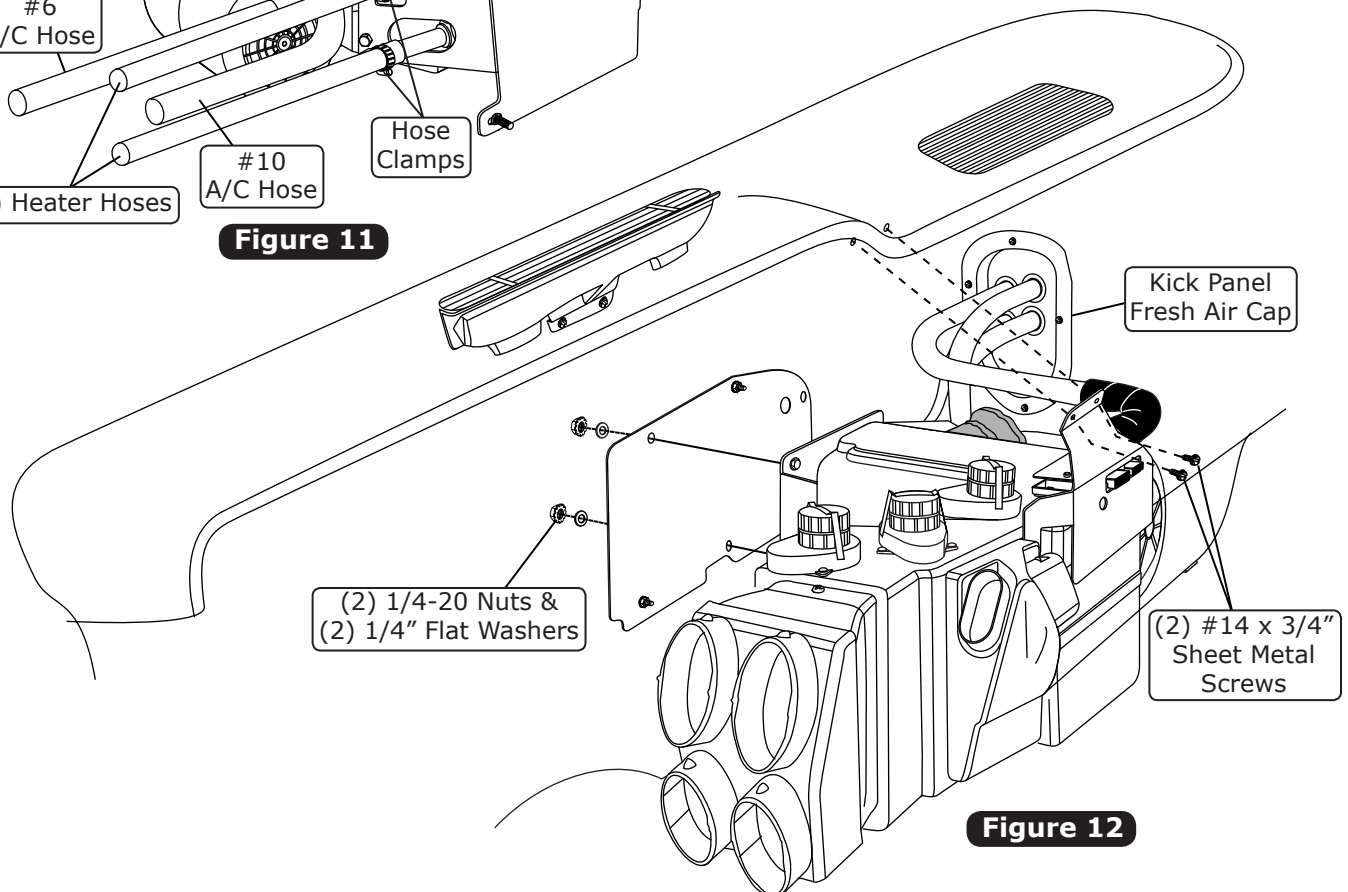

Figure 12
1. Lift the evaporator unit up under the dashboard. Secure loosely to the firewall using (2) 1/4-20 nuts and (2) flat washers (See Figure 12, below). **NOTE: To ensure proper drainage, it is very important that the evaporator is level, both left-right and fore-aft. Check for level on the flat portions of the case around the drain.**
2. Using (2) #14 x 3/4" sheet metal screws, secure the front evaporator mounting bracket to the cowl (See Figure 12, below).